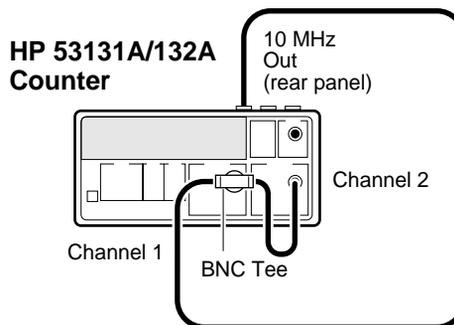
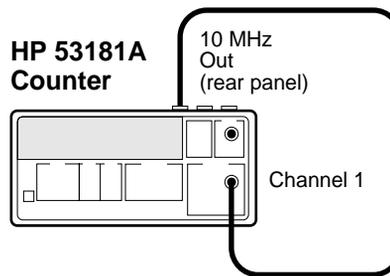

Figure 1-1A. Operational Verification Setup for HP 53131A/132A
Figure 1-1B. Operational Verification Setup for HP 53181A
- 7 Connect the Counter’s rear-panel 10 MHz Out as shown in Figure 1-1A or Figure 1-1B, depending on which Counter you are testing.**